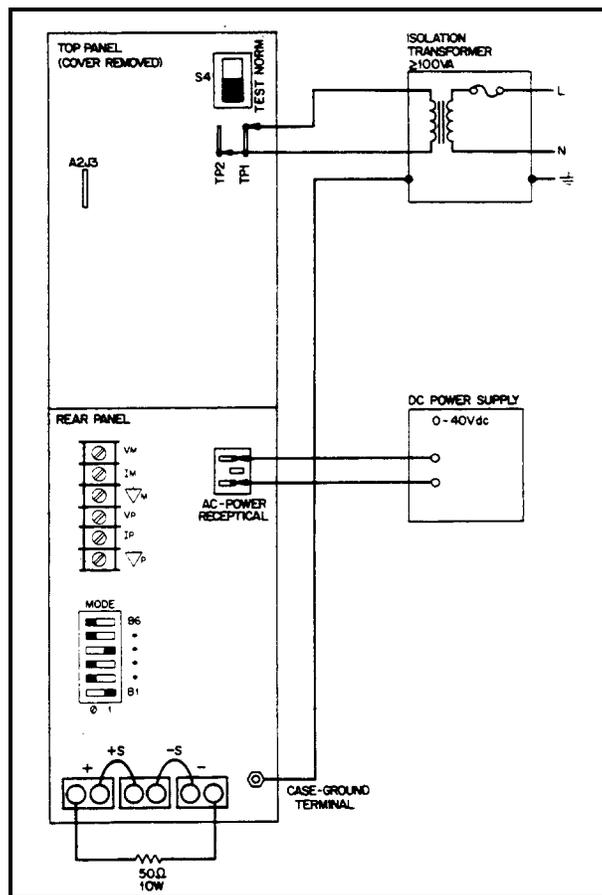

Figure 3-5. Main Troubleshooting Setup
Figure 3-5 shows the troubleshooting setup for troubleshooting all of the unit except the front panel and initial no-output failures (See Page 49). The external power supply provides the unit's internal bus voltage. The ac mains connects directly to the unit's A1T3 bias transformer via the isolation transformer, thereby energizing the bias supplies, but it does not connect to the input rectifier and filter to create the bus voltage. With the external supply the unit operates as a dc-to-dc converter. The supply biases A4Q3, and A4Q4 PFETs with a low voltage rather than the 320Vdc bus voltage. This protects the PFETs from failure from excess power dissipation if the power-limit comparator or the off-pulse circuitry are defective. It also reduces the possibility of electrical shock to the troubleshooter.
An isolation transformer provides ac voltage that is not referenced to earth ground, thereby reducing the possibility of accidentally touching two points having high ac potential between them. Failure to use an isolation transformer as shown in Figure 3-5 will cause the ac mains voltage to be connected directly to many components and circuits within the power supply, including the FET heatsinks, as well as to the terminals of the external dc power supply. Failure to use an isolation transformer is a definite personal-injury hazard.
The troubleshooting setup of Figure 3-5 connects high ac voltage to A1F1, A1S2, the fan, and other components and circuits along the left edge of the A1 main board.
- d. Complete the setup of Figure 3-5 by attaching an ac mains cord to test points TP1 (L, black wire) and TP2 (N, white wire) and connect the green ground wire to the unit's case ground terminal or a suitably grounded cabinet screw. TP1 and TP2 are accessible through the cutout on the left side of the unit and are at the left edge of the A1 main board.